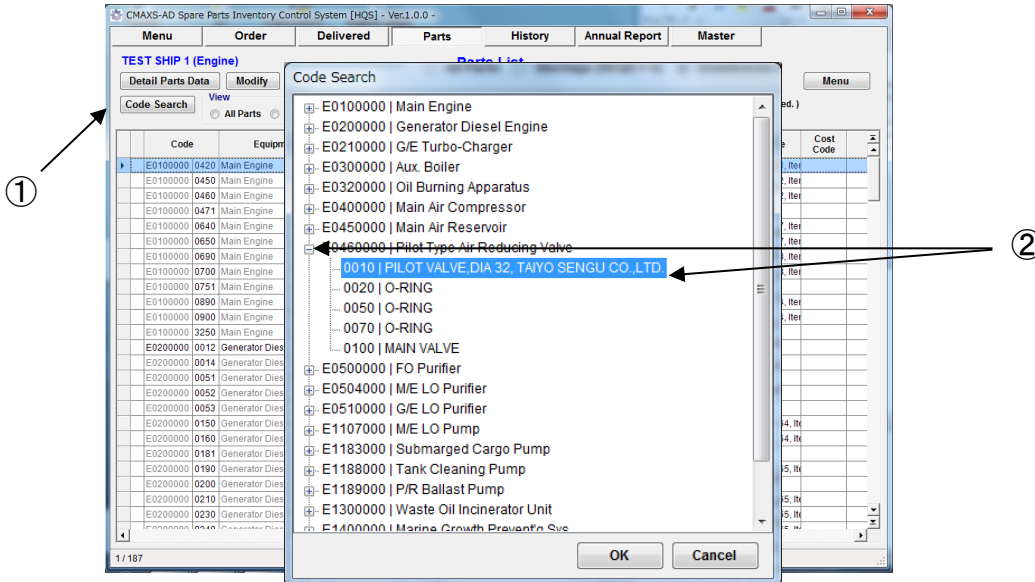

Fig.18-1 Code Search Screen
- (1) Select [Code Search] on the "Parts List Screen" (Fig.18-1).
- (2) Select [+] mark of equipment and spare parts data. Then, select [OK].
- (3) Selected spare parts are displayed on top row of this Screen.